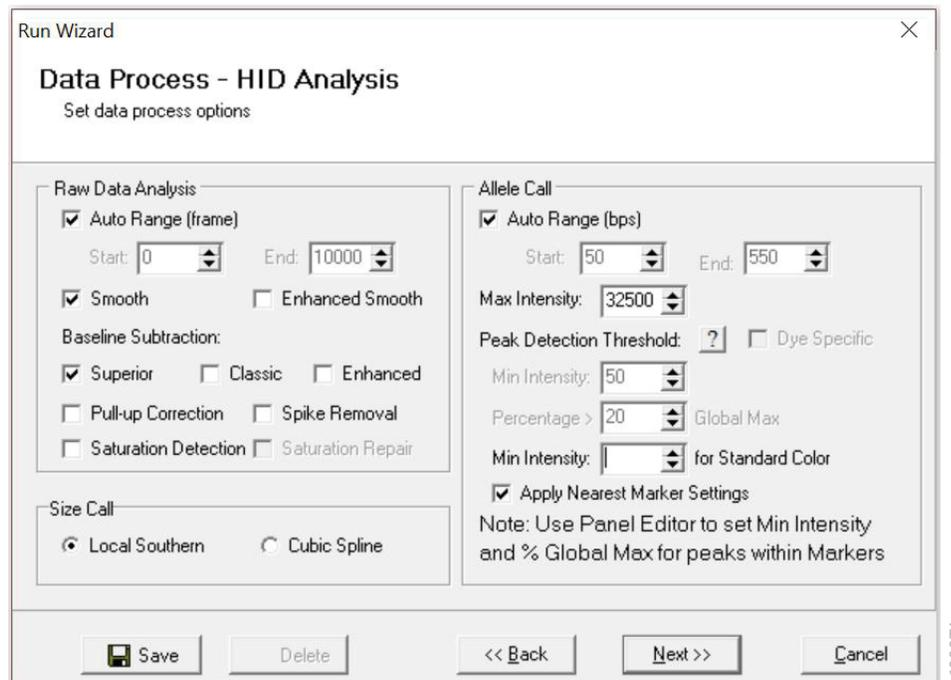

Figure 20. The 'Data Process' window for an analysis method.
- The 'Data Process – HID Analysis' window will appear (Figure 20). For the Raw Data Analysis, we recommend using Auto Range, Smooth, Superior Baseline Subtraction and Local Southern for the Size Call.